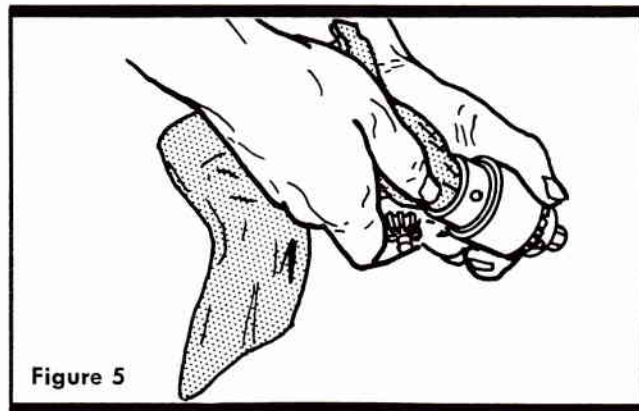

Figure 5
1. Clean the spindle taper and tapered socket in chuck body with a clean cloth (see figure 5). Make sure no foreign particles are left on these tapered surfaces which would prevent proper seating of the parts.